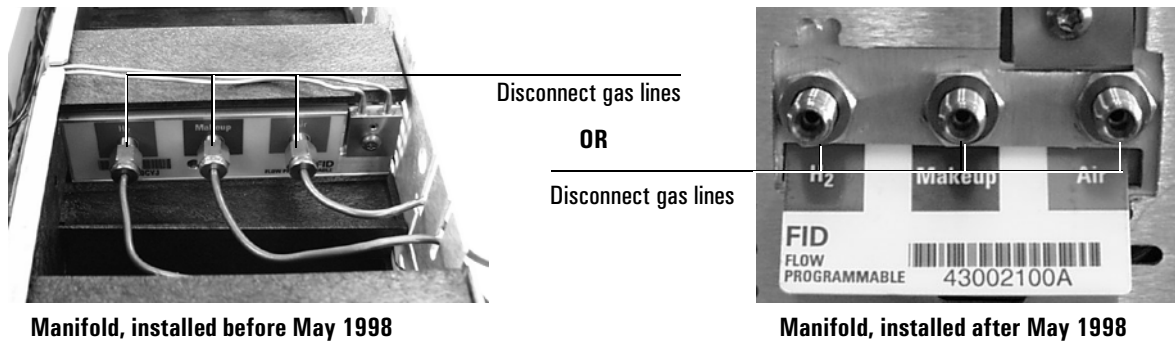

Figure 3 Remove the gas connections
2. Remove the gas supply tubing from the present manifold. See Figure 3.